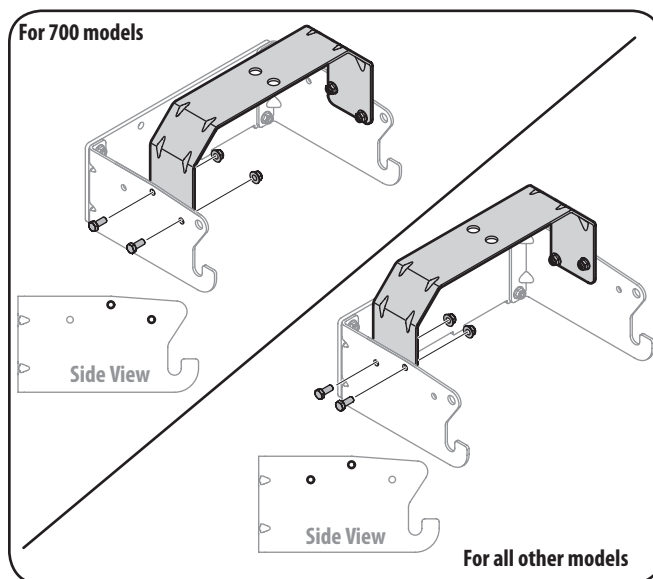

Figure 4-4
2. Flip over assembly and mount the hitch support bracket to the mounting assembly as seen in Fig. 4-4.
Note: The holes closest to the mounting hooks are to be used for all 700 model series machines, while the two holes closest to the cross mount are for all other models. The hitch support bracket will need to be flipped to enable alignment of the proper holes depending on the model of machine this bagger is being installed on. See Fig. 4-4.